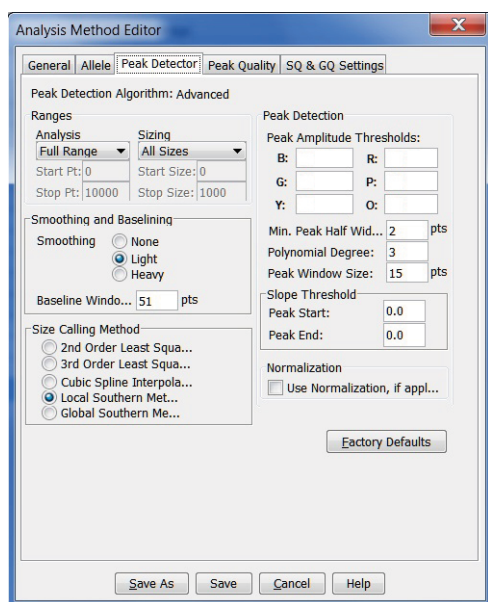

Figure 19. The GeneMapper® ID-X 'Peak Detector' tab.
9. Select the 'Peak Detector' tab (Figure 19). You will need to optimize these settings. In-house validation should be performed.